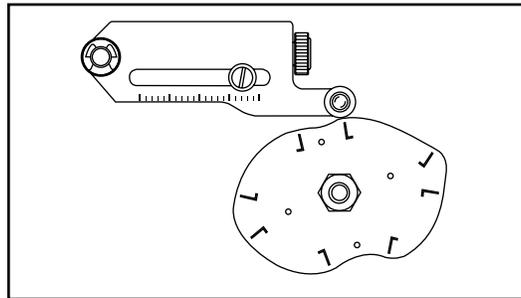

Figure 5: Alignment for Sereg Cams
6. Orient the cam to align the "L" shaped line located on the left side of the characteristic curve through the middle of the span arm roller. (See Figure 5.) The valve should be seated when this alignment is done. (See "Cam Installation" instructions). For correct cam characteristic, see Table I.
B) For Sereg actuators, make sure the line on the left hand side of the characteristic curve is lined up through the middle of the span arm roller bearing. See Figure 5.